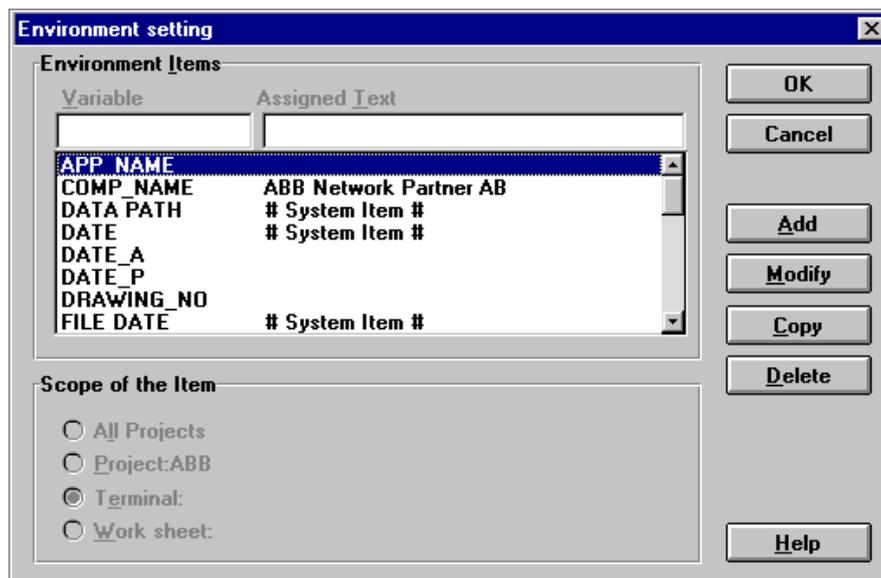

Fig. 60 The Environment Setting dialogue box.
- 1 Select the button <Config...> and the Environment Setting dialogue box in Fig. 60 appears.